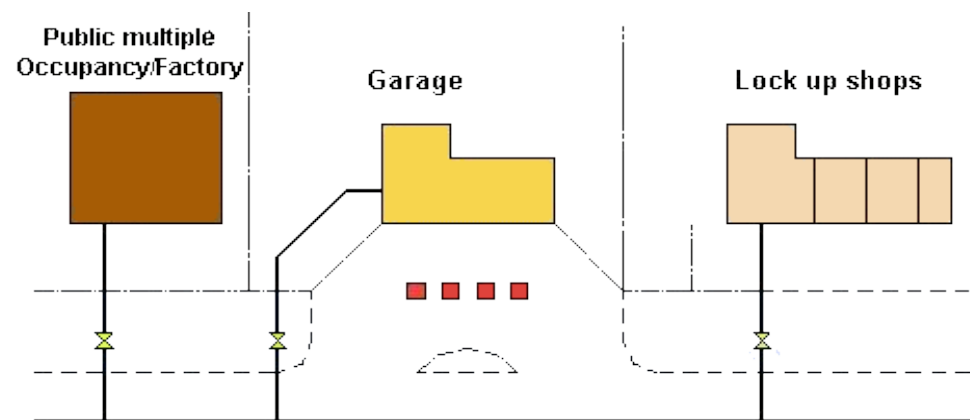
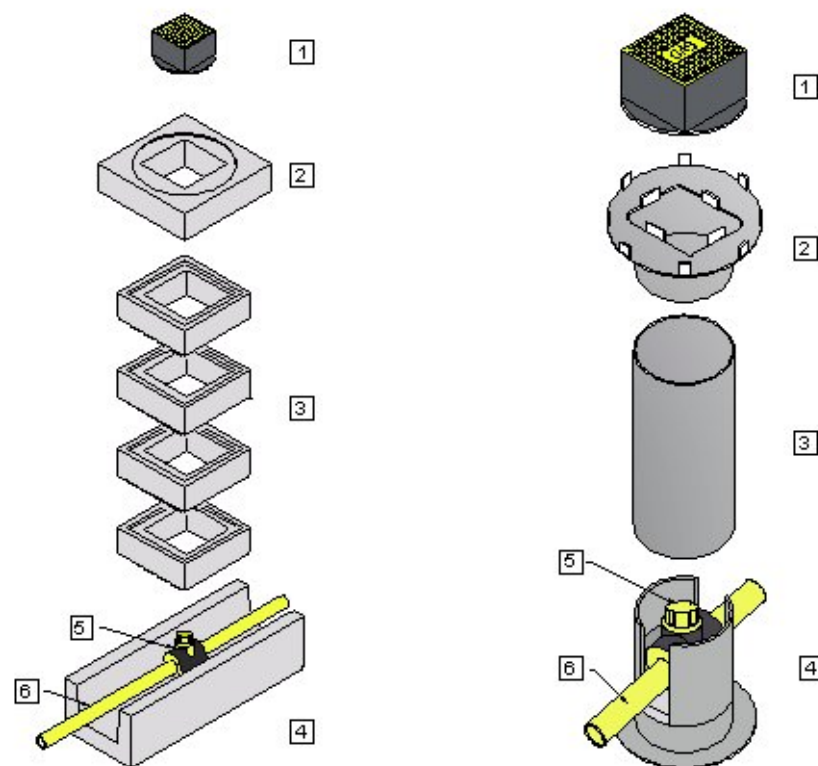

Figure 65 - Service Isolation Valve location
Figure 66 - PE Service Isolation Valve Chambers
4. Clearly indicate the valves location with a surface cover marked G or GAS (Figure 65 & Figure 66).
5. Construct the Service isolation valve covers using a concrete surround or purpose made plastic chamber installed over the centre line of the valve Figure 66 & Table 31 - Service Isolation Valves parts list.